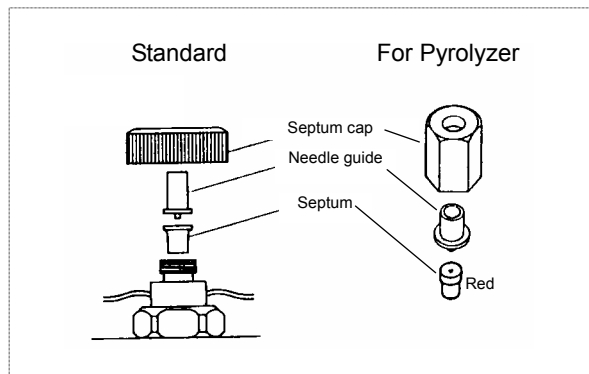

Fig.3.5 Replace septum caps
STEP 3 Replacing septum caps (Fig. 3.5)